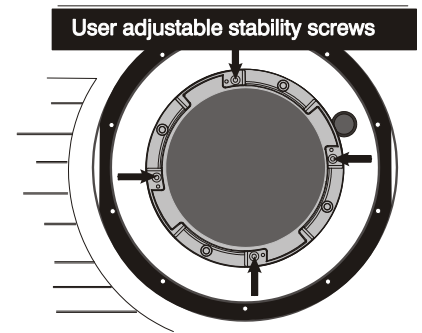

Figure 4.12. Adjustable Screws on Retaining Ring
- Secure stability screws (optional):** For added stability, secure the adjustment screws provided on the lens retaining ring (see **Figure 4.12**). If you have installed a large zoom lens, one or more of the screws may be inaccessible—simply tighten those that are accessible.